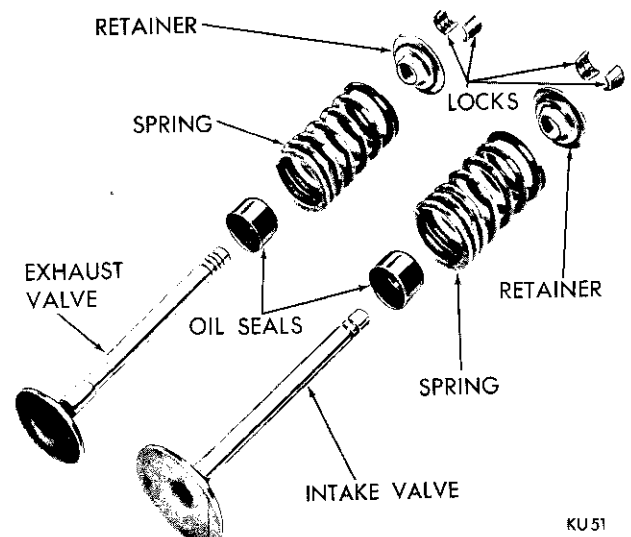

Fig. 14—Valve Assembly (Disassembled View)
(1) Coat the valve stems with lubricating oil and insert them in position in the cylinder head.
(2) Install new cup seals on the intake and exhaust valve stems and over the valve guides, as shown in Figure 14 and 15 and install the valve springs and retainers.
(3) Compress the valve springs with Tool C-3422A. Install the locks and release tool.